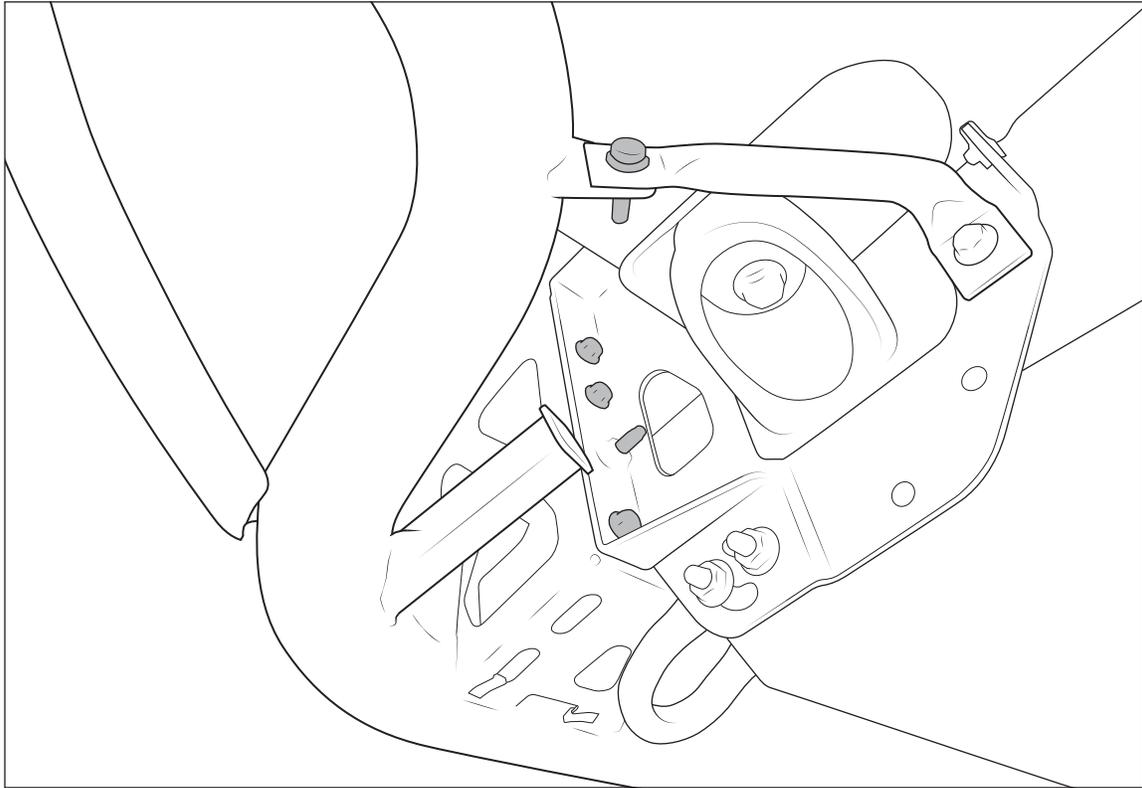

Figure 13
5. Install QTY 8 M10 bolts that mount the bumper to the bumper bracket you installed. 6 are installed from behind the bumper and 2 from the front (fig. 13).
6. Fasten bumper tubes to your pencil brackets using M10 bolts (fig. 13).